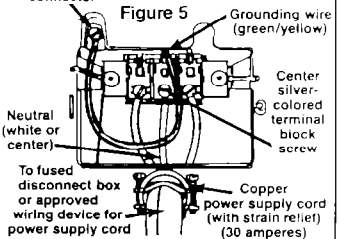

Figure 5
3. Connect the neutral wire of the power supply cord to the center silver-colored terminal of the terminal block and connect the other wires to the outer terminals. See Figure 5.